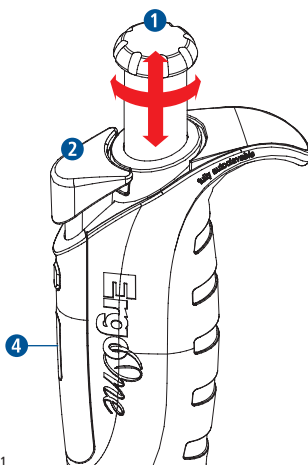

Fig. 1
Unlock the volume adjustment catch by pulling up the volume control button ① (Fig. 1), until you hear a click. Turn the volume control button ① clockwise to reduce the aspirated volume, or counter clockwise to increase it. The set volume is shown in the four-digit volume display ④ from top to bottom. The white line indicates the decimal point. After the volume is set, push the volume control button ① back to the locked position until you hear a click. The pipet is now ready to use.